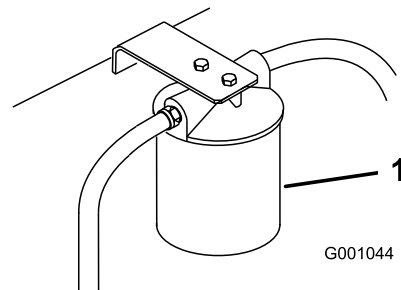

Figure 78
4. Place drain pan under filter, remove the old filter and wipe the filter adapter gasket surface clean (Figure 78).